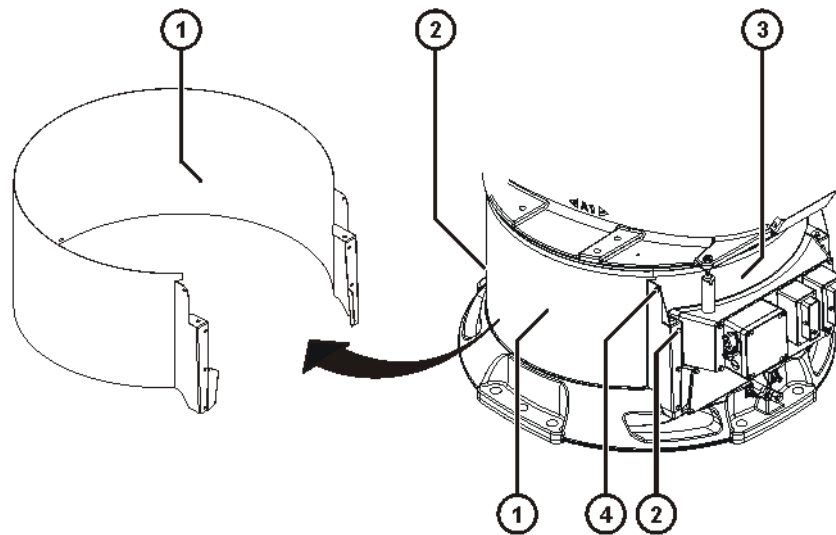

Fig. 9-32: Greasing the cable set
1. Remove 2 M6x16 Allen screws together with conical spring washers from the cover and intermediate plate (>>> Fig. 9-32 ).